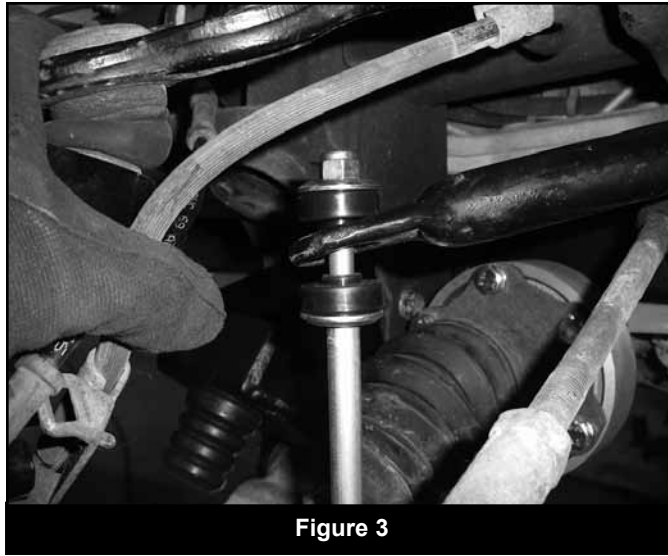

Figure 3
3. Install a provided stem washer (S100776) followed by a stem bushing (SB26BK) on each sway bar link. Install both links into the sway bar and install a second stem bushing followed by a second washer. Fasten the sway bar link upper assemblies with 3/8" nylock nuts (BP 569). Leave nuts loose (Fig 3).